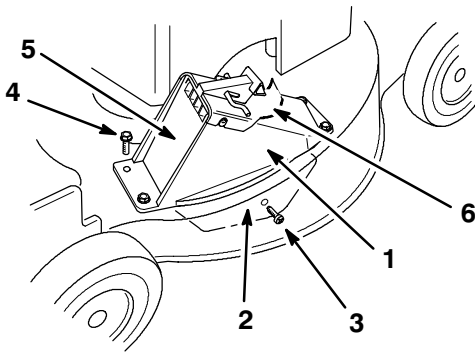

Figure 37
- Insert the tongue of the discharge tunnel into the lawn mower (Fig. 37).
- Ensure that the hole in the tongue aligns with the hole in the side of the lawn mower (Fig. 37).
- Install the self-tapping plastite screw supplied with the grass catcher into the side hole and tongue, and partially tighten the screw (Fig. 37).
- Using the three screws supplied with the grass catcher, fasten the discharge tunnel to the lawn mower (Fig. 37).
- Open and close the tunnel door to ensure that it moves freely (Fig. 37).